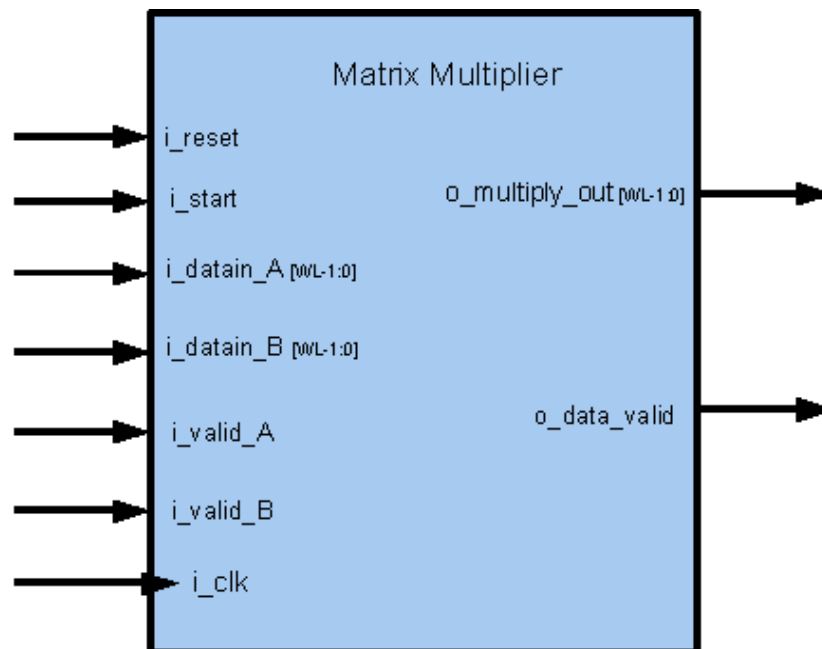

Figure 2: Matrix Multiplier Schematic Diagram
5. Figure 2 shows the schematic symbol of the IP core and all input and output ports have been represented with their data width.